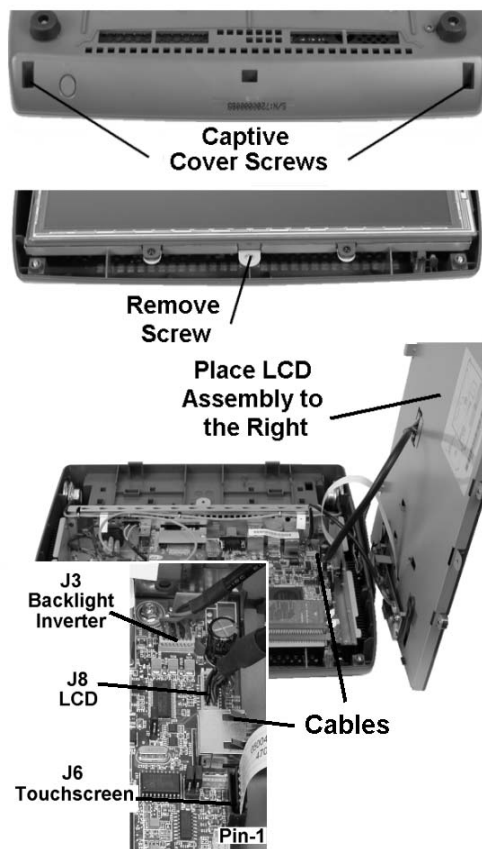

Figure 1: Removing the Workstation Cover
Refer to Figure 1.
To reassemble the workstation, reverse the steps performed to remove the cover while referring to Figure 1.
1. Install the LCD, Backlight, and Touchscreen Interface Cables as shown in Figure 1.